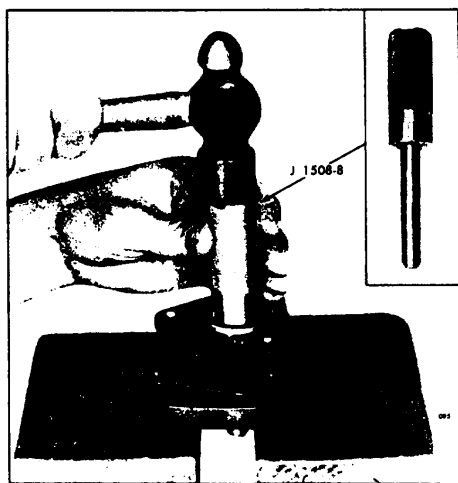

Fig. 7. Installing Outer Oil Seal ' 1970 General Motors
- c. Place the shorter end of the adaptor J 1508-9 over the pilot and against the shoulder of the installer handle. Place the outer oil seal on the pilot of the installer handle with the lip of the seal facing the adaptor. Then, insert the pilot of the installer handle into the pump body and drive the seal in (Fig. 7.) until the shoulder of the adaptor contacts the pump body. Thus the oil seals will be positioned so that the space between them will correspond with the drain holes located in the bottom of the pump body.